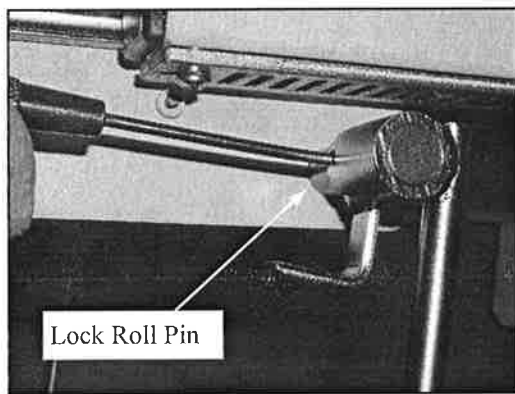

Figure 2
- 3) Rotate footrest lock handles, downward approximately 90 degrees. Using a 1/8" diameter straight line punch and hammer, drive out the 1/8" x 3/4" split roll pin toward the chair seat and back, while preventing the foot section from going back in toward the chair, one handle at a time, (Figure 2). CAUTION, if either of the torsion springs is still loaded the rod may spin when the pin and punch are removed.